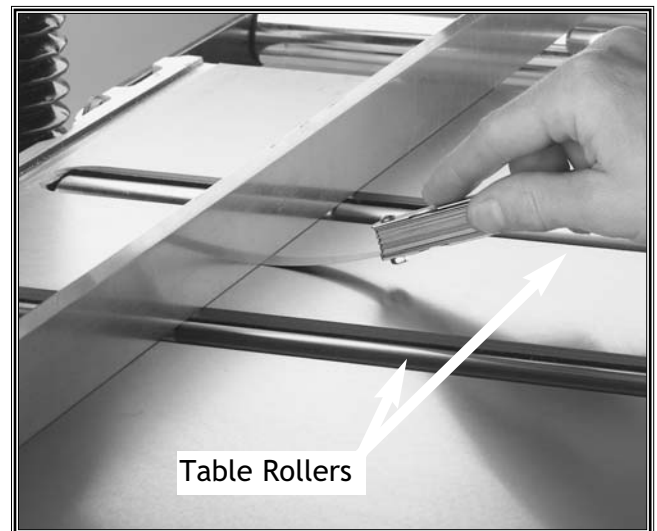

Figure 29. Measuring gap between straightedge and table with a feeler gauge.
1. Place a good straightedge across the length of the table as shown in **Figure 29**.